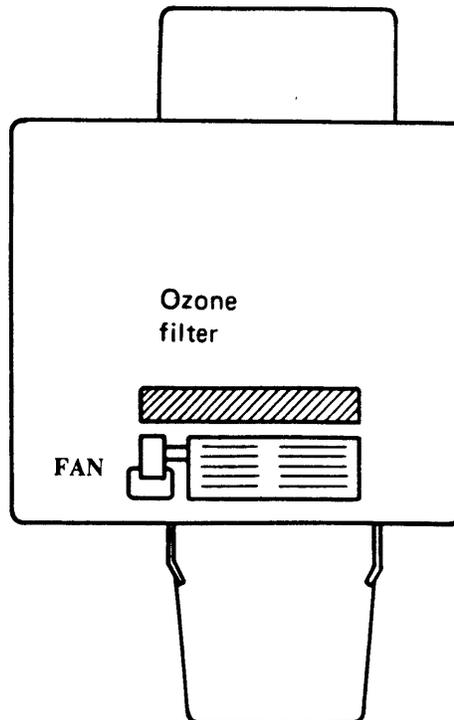

FIGURE 2-14
2. Locate the ozone filter: it is a gray plastic piece located just above the toner cartridge, between the fan and the red plastic preconditioning exposure window (Figure 2-14). You have to look and reach under the fan to find it.